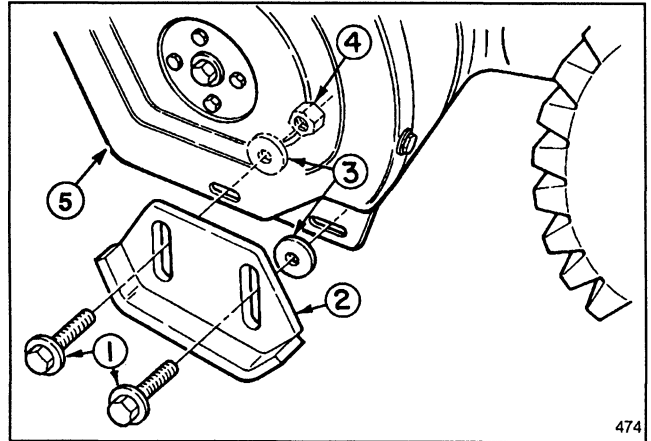

Figure 8
- Remove (2) flange bolts and washers securing ends of scraper to side plates (Fig. 8). Reinstall
bolts through rear slots in skids. Assemble both skids so that washers are between skids and sideplates (Fig. 8). Do not tighten bolts.